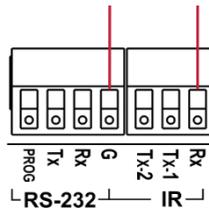

Figure 11: Connecting IR Controller
- Connect the controller IR output to the **WP-789T** IR terminal block as illustrated in Figure 11.